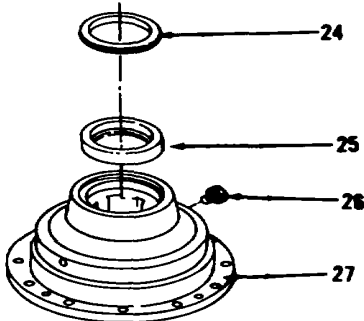

Figure 14-156.
- 21. Remove seal assembly (24), cup (25) and plug (26) from housing (27, Figure 14-156). Discard seal assembly (24).